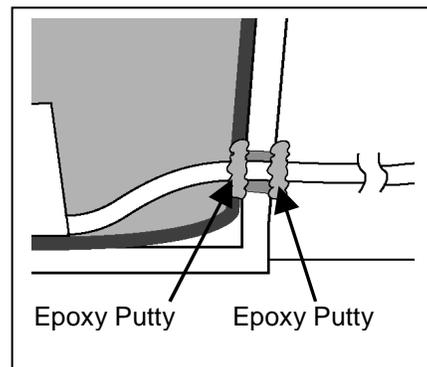

Fig. 7
- Place the pump inside the container and run the cord through the newly drill hole. Seal the hole around the cord with epoxy putty and allow it to harden. Fig. 7